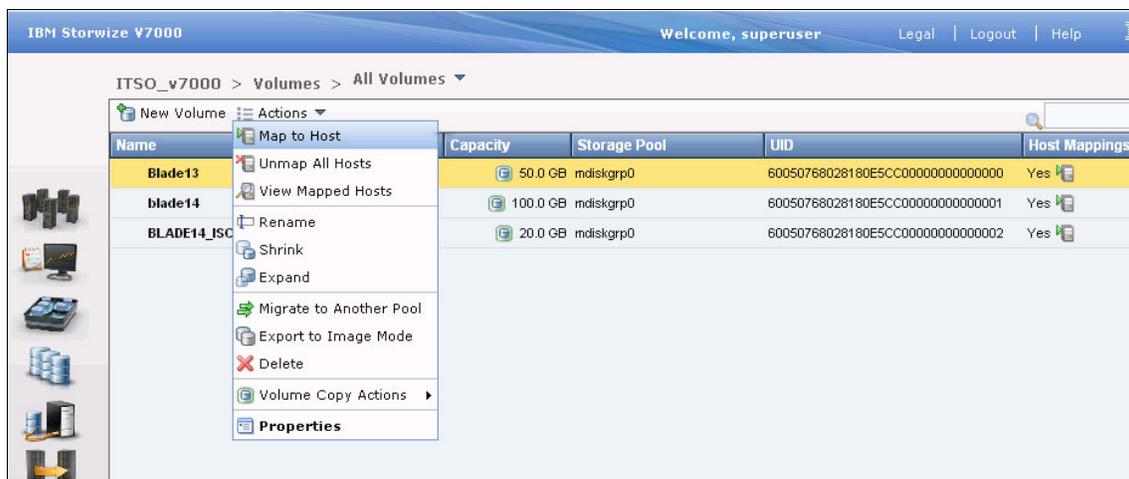

Figure 10-91 Selecting the Map to Host action
10. In the Volumes panel, select the volume that you created, which in this case is **Blade13**. Then select **Actions** → **Map to Host** (Figure 10-91).